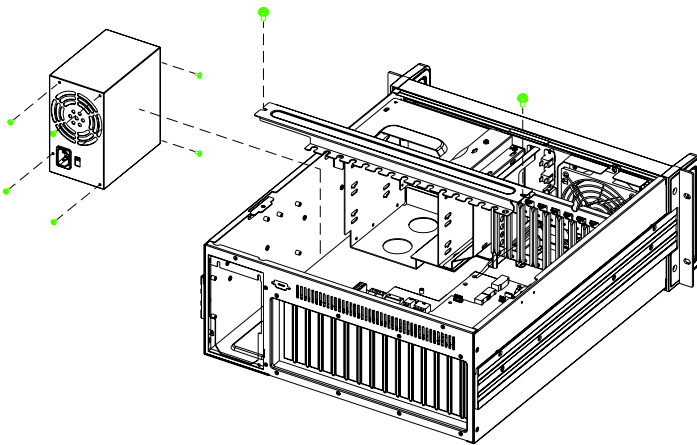

Figure 3.10: Replacing the single power supply
4. Remove the four screws located on the power supply bracket and the two screws inside of the left plate and then remove the power supply. (see *Figure 3.10*)